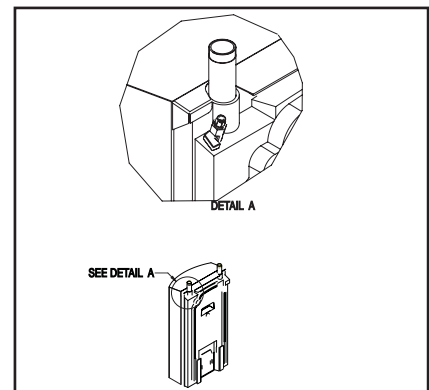

Fig. 10 0627123
1. Check that water- and air supplies for the system are open. (see A, Fig.10,air)
3. Close the air supply(A, Fig 10)